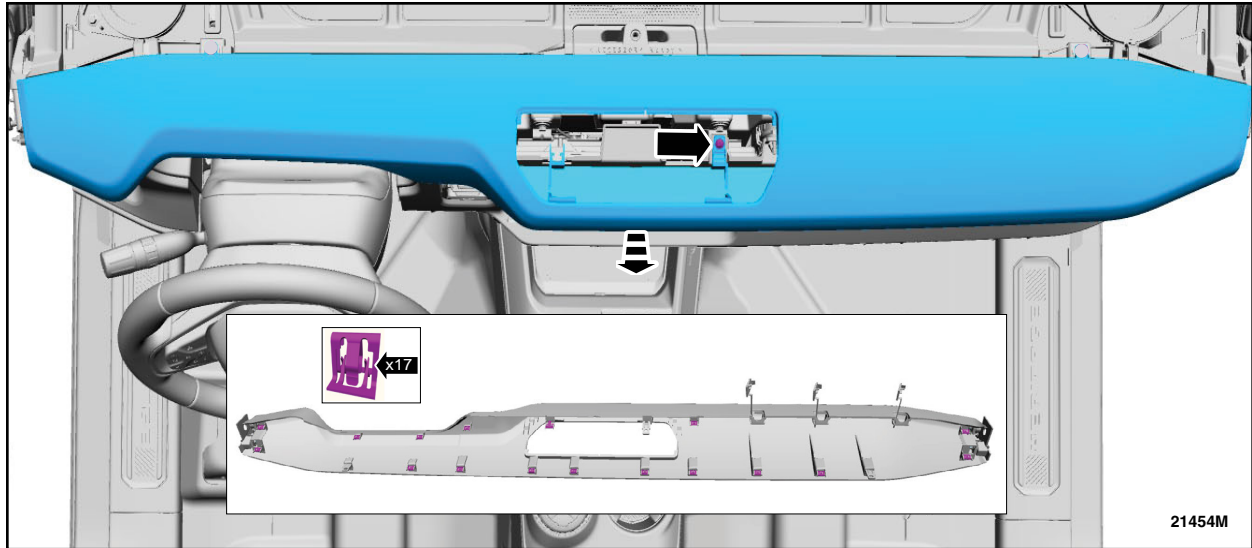

**FIGURE 11**
11. Position aside the bolt covers and remove the bolts. See Figure 11.